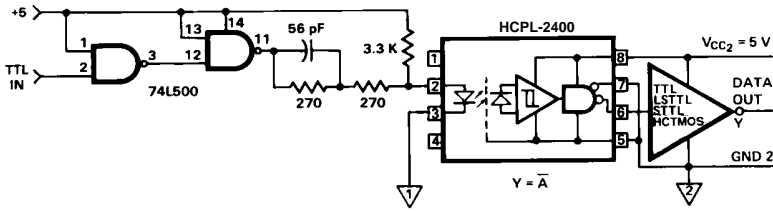

Figure 13. Recommended 20 Mb/s HCPL-2400/30 Interface Circuit.
- The typical data shown is indicative of what can be expected using the application circuit in Figure 13.
- This specification simulates the worst case operating conditions of the HCPL-2400 over the recommended operating temperature and V_{CC} range with the suggested application circuit of Figure 13.
A recommended LED drive circuit is shown in Figure 13. This circuit utilizes several techniques to minimize the total pulse-width distortion at the output of the optocoupler. By using two inverting TTL gates connected in series, the inherent pulse-width distortion of each gate cancels the distortion of the other gate. For best results, the two series-connected gates should be from the same package.
The circuit in Figure 13 also uses techniques known as prebias and peaking to enhance the performance of the optocoupler LED. Prebias is a small forward voltage applied to the LED when the LED is off. This small prebias voltage partially charges the junction capacitance of the LED, allowing the LED to turn on more quickly. The speed of the LED is further increased by applying